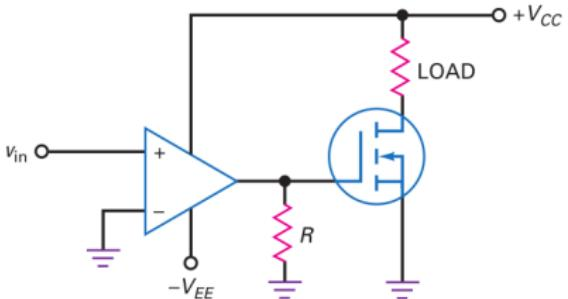

Figure 10: Comparator interfaces with power FET
- ▶ Fig. 10 shows how a zero-crossing detector can interface with an EMOS circuit.